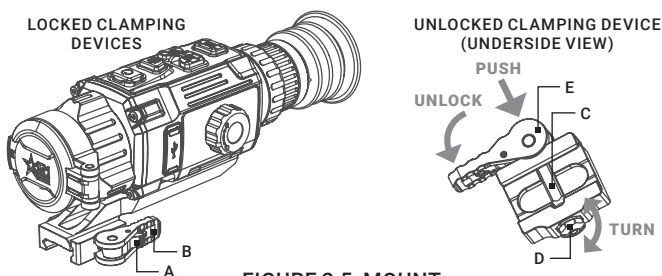

FIGURE 2-5. MOUNT
2. With the clamping device unlocked (as shown in Figure 2-5), push the cam (E) towards the arrow, which will cause the nut (D) to slide out of its hole.
- To tighten/ loosen the clamping device, push down on the cam (E) and turn the nut (D) CW/ CCW respectively, in one-two increments (see note below). Much like when the cam (E) is released, backward-moving spring will cause the nut (D) to slide back into its hole.